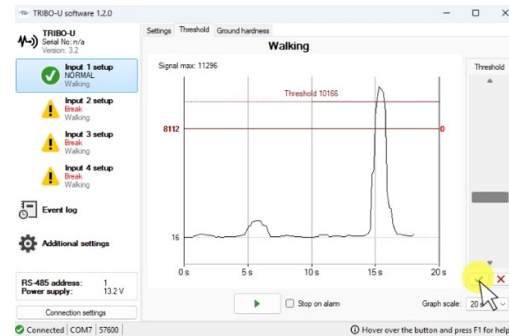

Fig. 19
- Confirm the threshold setting with a green check mark. (Fig. 19)